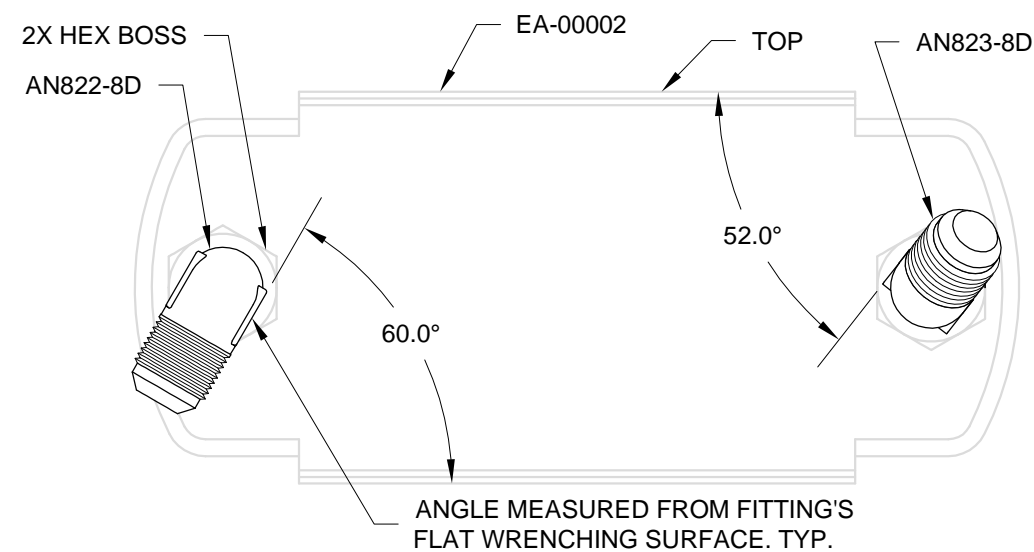

FIGURE 2: OIL COOLER FITTINGS INSTALLATION
Step 1: (Tail Dragger) Install the 90° elbow into the EA-00002 Oil Cooler 2006X. See Figure 2.
Install the 45° fitting into the oil cooler. See Figure 2.